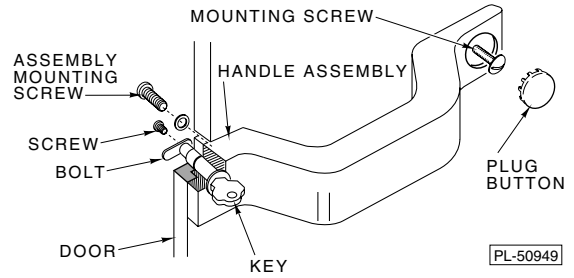

Fig. 1
2. Remove the two mounting screws and the handle assembly (Fig. 1)
1. Lift up and remove the front trim panel (Fig. 1).
2. Remove the screws which secure the trim rail cover (Fig. 1), unplug the door switch lead wires, and remove the screws which secure the trim rail (Fig. 1). Carefully lay the trim rail on top of the cabinet — avoid damaging or kinking the thermometer capillary tube.